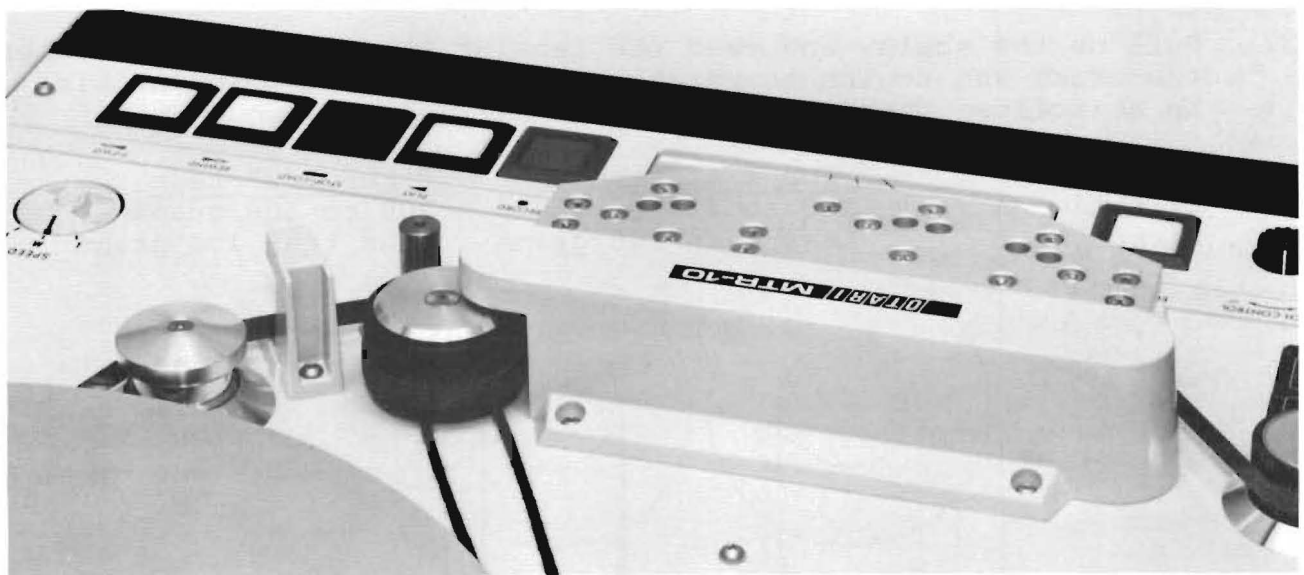

FIGURE 5-2. MEASURING PINCH ROLLER TENSION
5. Make a 1 foot or larger loop with a piece of twine, and attach one end to a spring scale. Place the other end of the loop over the pinch roller, so it is threaded around the shaft at the bottom of the pinch roller. Hold the scale and twine to the rear so that the twine just clears the space between the two reels. (Refer to figure 5-2.)